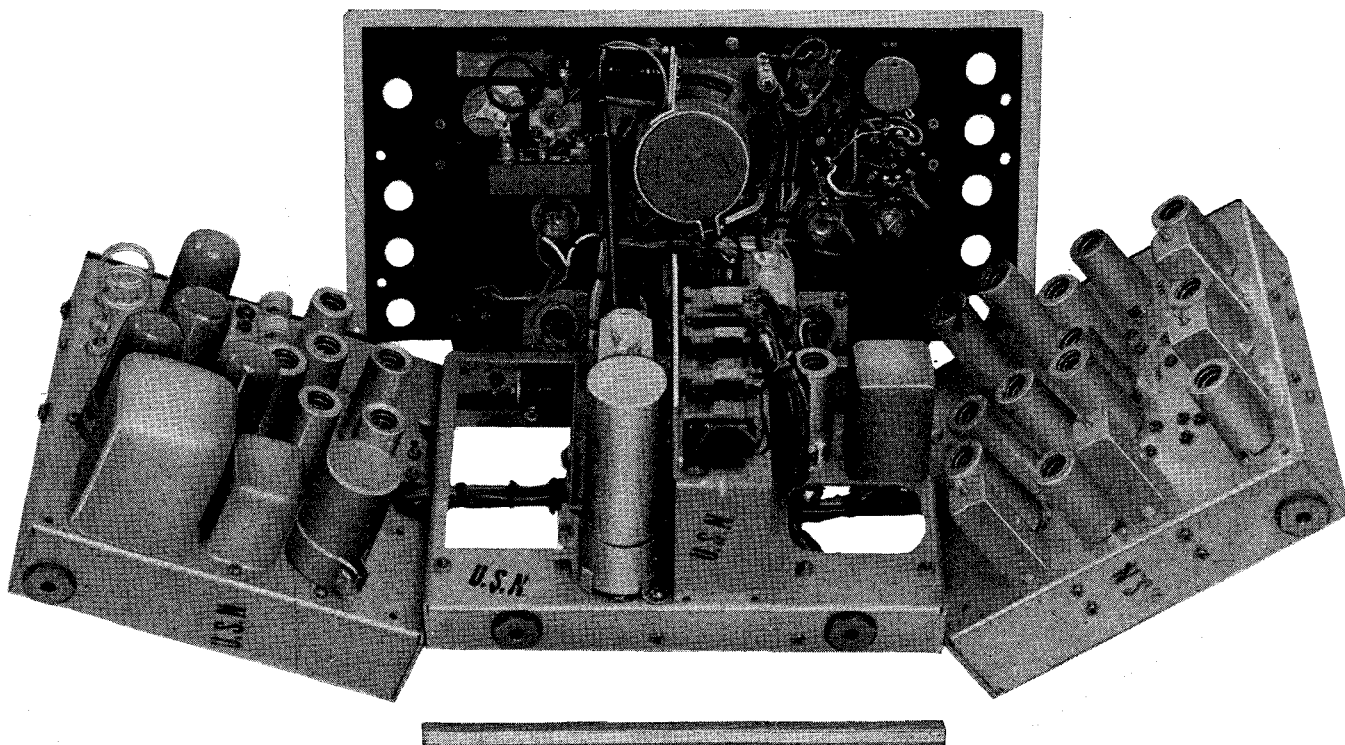

Figure 5-10—Navy Type COL-43065 Radio Transmitter-Receiver, Dismantled View
(Refer to figure 5-10.)
(1) Remove the ANTENNA COUPLING adjustment screw.
(2) Remove the eight Phillips head bolts located around the edge of the front panel. Save all of the insulating spacer washers.
(3) Tilt the top of the panel forward. This will provide sufficient space for replacing the panel components.
(4) When assembling the panel to the chassis make certain that the insulating washers are in place so that the panel is not shorted to the chassis.
b. **CHASSIS COMPONENTS.**—To replace inaccessible components which are mounted on the receiver, transmitter or rectifier section, the chassis may be disassembled as shown in figure 5-10 and outlined in the following steps:
(1) Place the chassis on a bench with the panel facing upward.
(2) To loosen panel repeat steps (1), (2), (3) in the above paragraph.
(3) Press out the two rubber grommets around the wire cables which connect the transmitter and
(4) Remove the bolts which fasten the transmitter and receiver sections to the rectifier section.
(5) To avoid strain and damage to the connecting cables, support the panel and chassis sections with both hands while turning the chassis to the normal position.
(6) Remove the spacer bar between the transmitter and receiver section.
(7) To avoid strain and damage to the connecting cables, use wood blocks to support the transmitter and receiver sections which will tilt outward as shown in figure 5-10.
(8) After repairs have been made and the chassis is reassembled, make certain that the wire cable grommets are in place and that the panel is not shorted to the chassis.